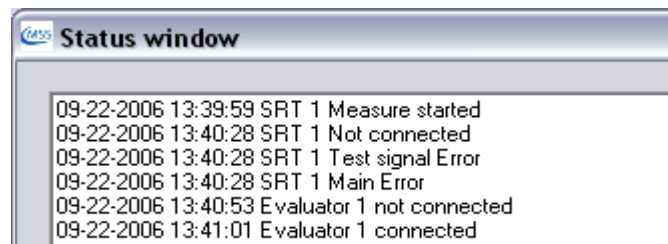

Fig 5.2. Example of messages displayed in the event window / status window
- If the connection is established, this is confirmed by a “Connected” message in the event window. (Fig. 5.2)
The error messages displayed in PCN13 Logger are self-explaining, i.e. a communication problem with the GDMS-PCN13 Evaluator is depicted in Fig. 5.2. below.